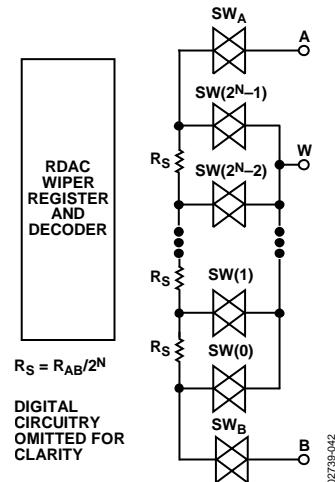

Figure 43. Equivalent RDAC Structure (Patent Pending)
The patent-pending RDAC contains multiple strings of equal resistor segments with an array of analog switches that act as the wiper connection. The number of positions is the resolution of the device. The AD5231 has 1024 connection points, allowing it to provide better than 0.1% setability resolution. Figure 43 shows an equivalent structure of the connections among the three terminals of the RDAC. The SW_A and SW_B are always on, while the switches SW(0) to SW(2^N-1) are on one at a time, depending on the resistance position decoded from the data bits. Because the switch is not ideal, there is a 15 Ω wiper resistance, R_W. Wiper resistance is a function of supply voltage and temperature. The lower the supply voltage or the higher the temperature, the higher the resulting wiper resistance. Users should be aware of the wiper resistance dynamics if accurate prediction of the output resistance is needed.
The 10-bit data-word in the RDAC latch is decoded to select one of the 1024 possible settings. The following discussion describes the calculation of resistance R_{WB} at different codes of a 10 k Ω part. For V_{DD} = 5 V, the wiper's first connection starts at Terminal B for data 0x000. R_{WB}(0) is 15 Ω because of the wiper resistance, and because it is independent of the nominal resistance. The second connection is the first tap point where R_{WB} (1) becomes 9.7 Ω + 15 Ω = 24.7 Ω for data 0x001. The third connection is the next tap point representing R_{WB} (2) = 19.4 Ω + 15 Ω = 34.4 Ω for data 0x002 and so on. Each LSB data value increase moves the wiper up the resistor ladder until the last tap point is reached at R_{WB} (1023) = 10,005 Ω . See Figure 43 for a simplified diagram of the equivalent RDAC circuit. When R_{WB} is used, Terminal A can be left floating or tied to the wiper.